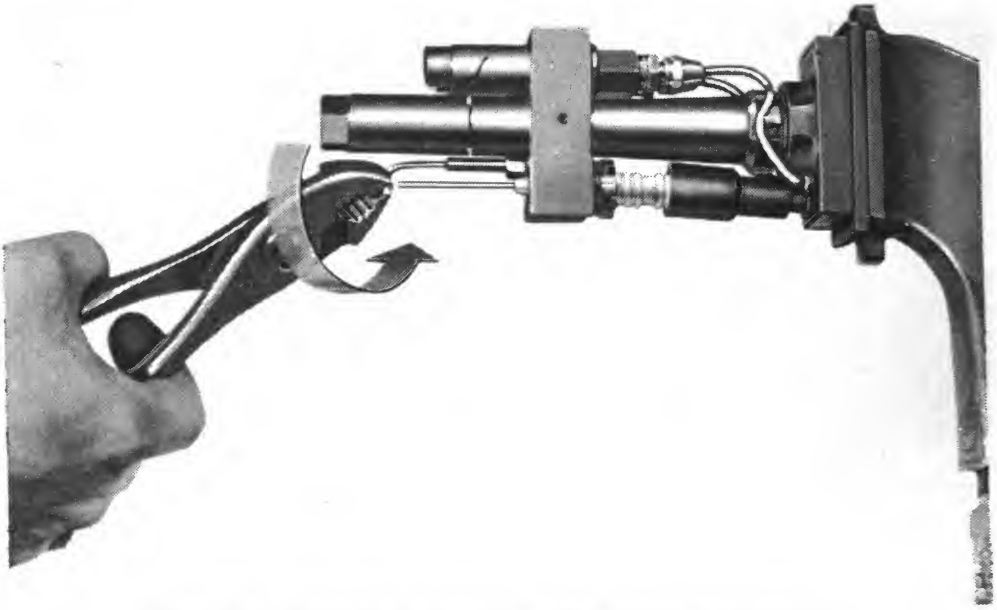

Fig. 76. Adjusting location of ground electrode.
(2) Ground electrode. To install, reverse procedure of b(2) above.
(3) Adjustment of electrode. The tip of the electrode must be directly under the end of the spark plug or an improper gap results. If the electrode tip is not under the spark plug tip, rotate the electrode with a pair of pliers (fig. 76), until it is in desired position. The gap